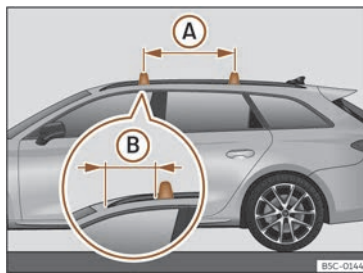

Fig. 192 Mounting points for the roof bars for the roof rack (Leon Sportstourer).
Valid for the Leon Sportstourer: The crossbars are assembled on the roof railings >>> **Fig. 192**. The distance between cross bars (A) should be approx. 75 cm and the distance between the front bars and the front bracket of the side roof bar (B) should be 30 cm.